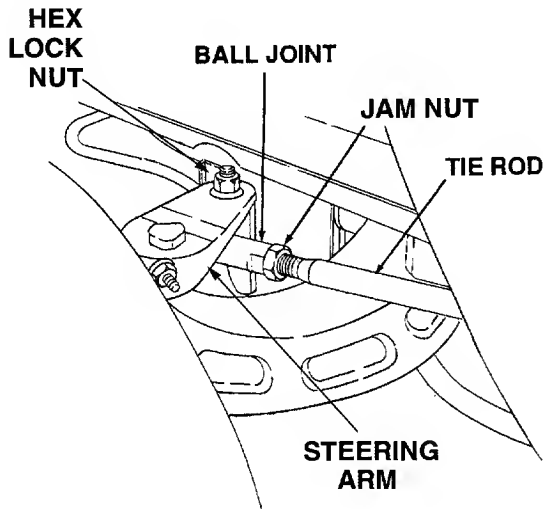

Figure 14
To adjust the toe-in, disconnect the front ball joints from the steering arms by removing the hex lock nuts (Refer to Figure 14) and proceed as follows:
- Loosen the jam nuts from the ball joints (See Figure 14).